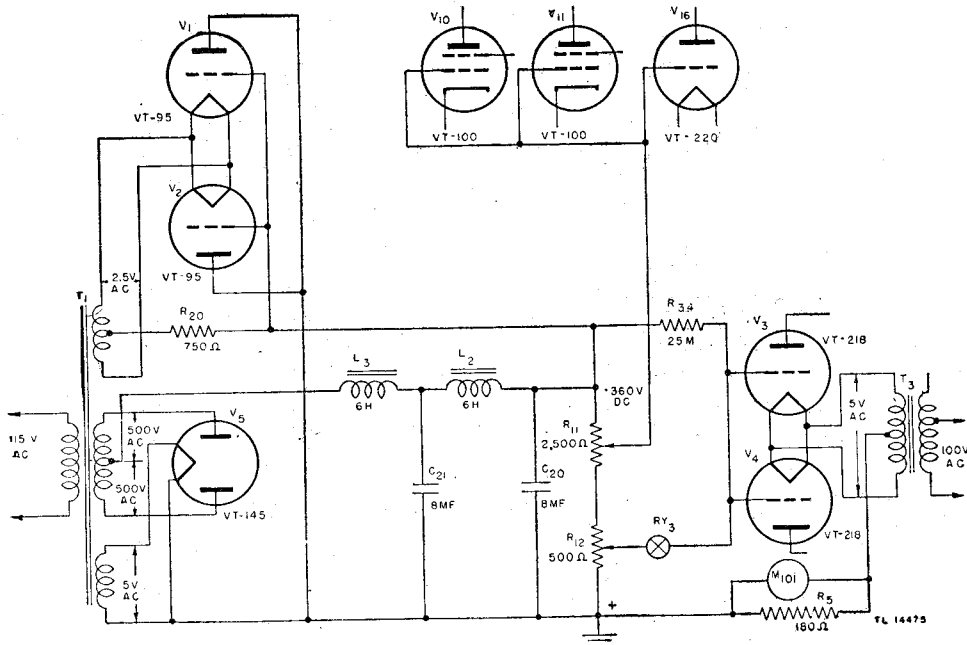

Figure 64. Bias power supply—functional diagram.
b. BIAS POWER SUPPLY (fig. 64). The bias power supply furnishes filament and plate voltage for tubes  $V_1$  and  $V_2$ , and bias voltage for tubes  $V_{10}$ ,  $V_{11}$ ,  $V_{16}$ ,  $V_3$  and  $V_4$ . Transformer  $T_1$  supplies filament and plate voltage to rectifier tube  $V_5$  (Tube JAN-5Z3 (VT-145)) which is connected as a full-wave rectifier. The rectifier output voltage is applied to a choke input pi-section filter consisting of filter chokes  $L_2$  and  $L_3$ , and capacitors  $C_{20}$  and  $C_{21}$ . Resistor  $R_{11}$  and potentiometer  $R_{12}$  connected across the output of the power supply serve as bleeder resistors. The voltage regulation of this power supply is relatively good because of the use of a choke input filter and a high value of bleeder current. An adjustable tap is provided on resistor  $R_{11}$  for the purpose of adjusting the bias voltage to tubes  $V_{10}$ ,  $V_{11}$ , and  $V_{16}$  to the correct value. Filament current for modulator tubes  $V_3$  and  $V_4$  is supplied by filament transformer  $T_3$ . The function of all other parts shown in figure 64 has been described in other paragraphs.